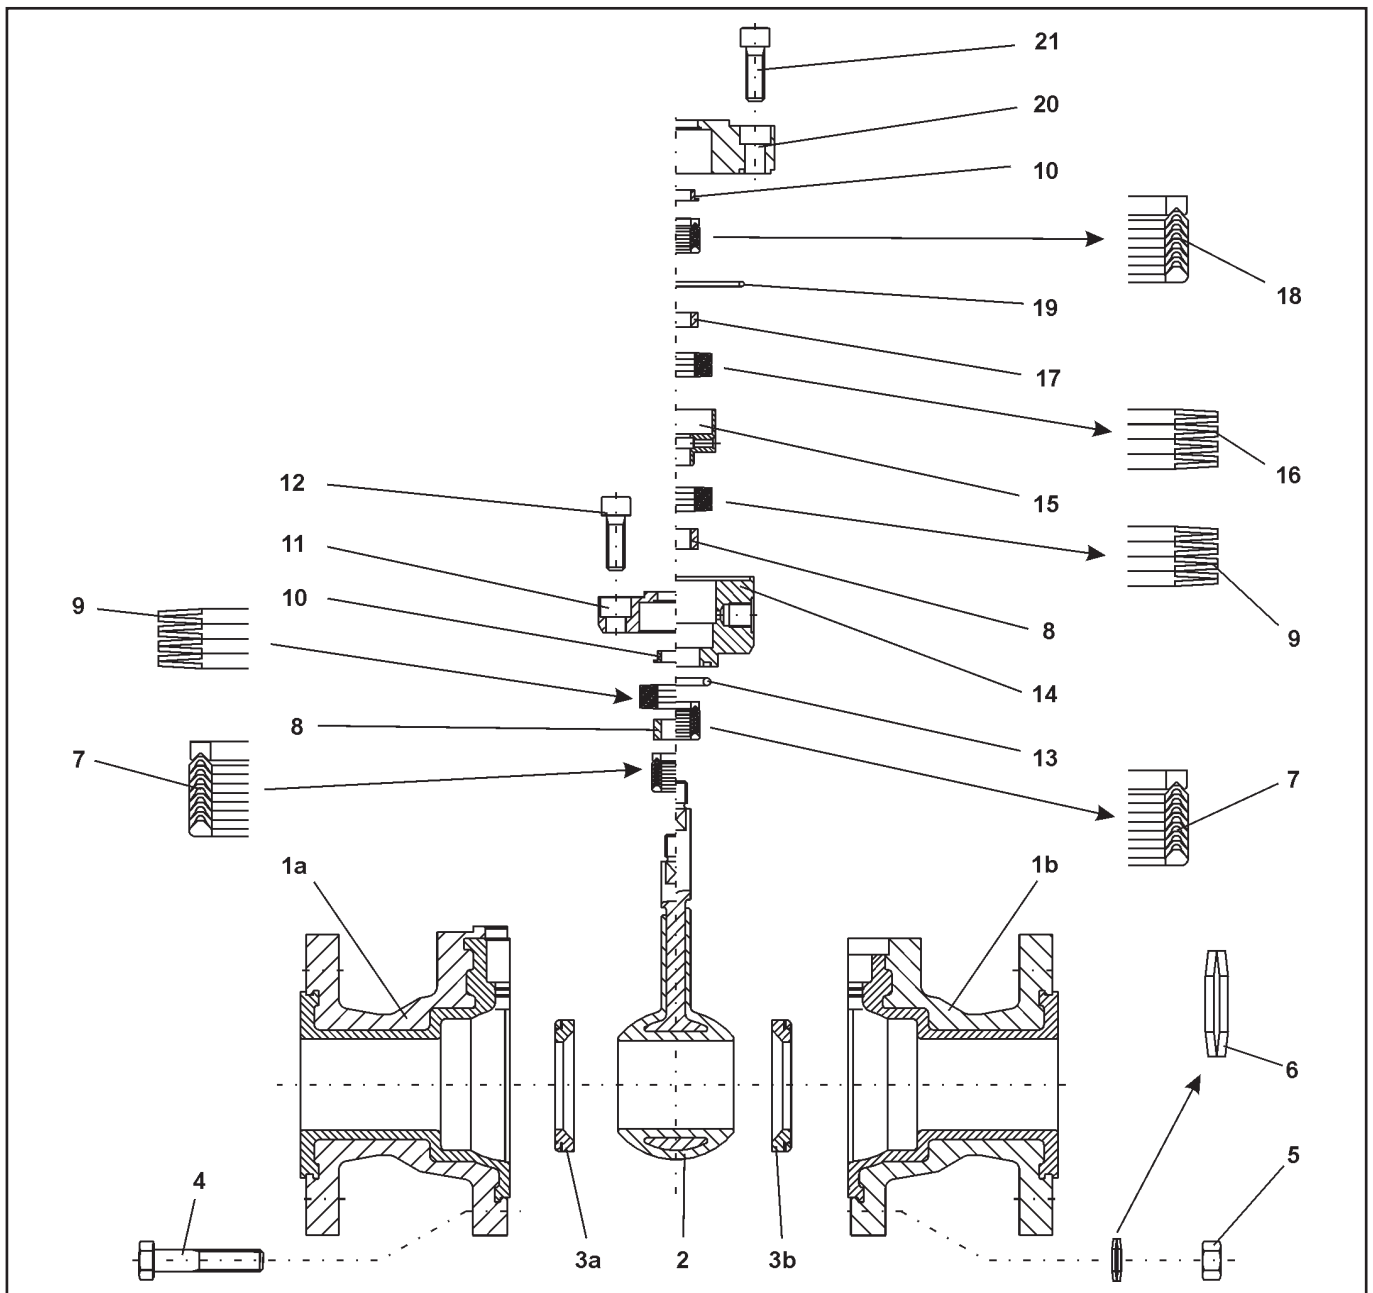
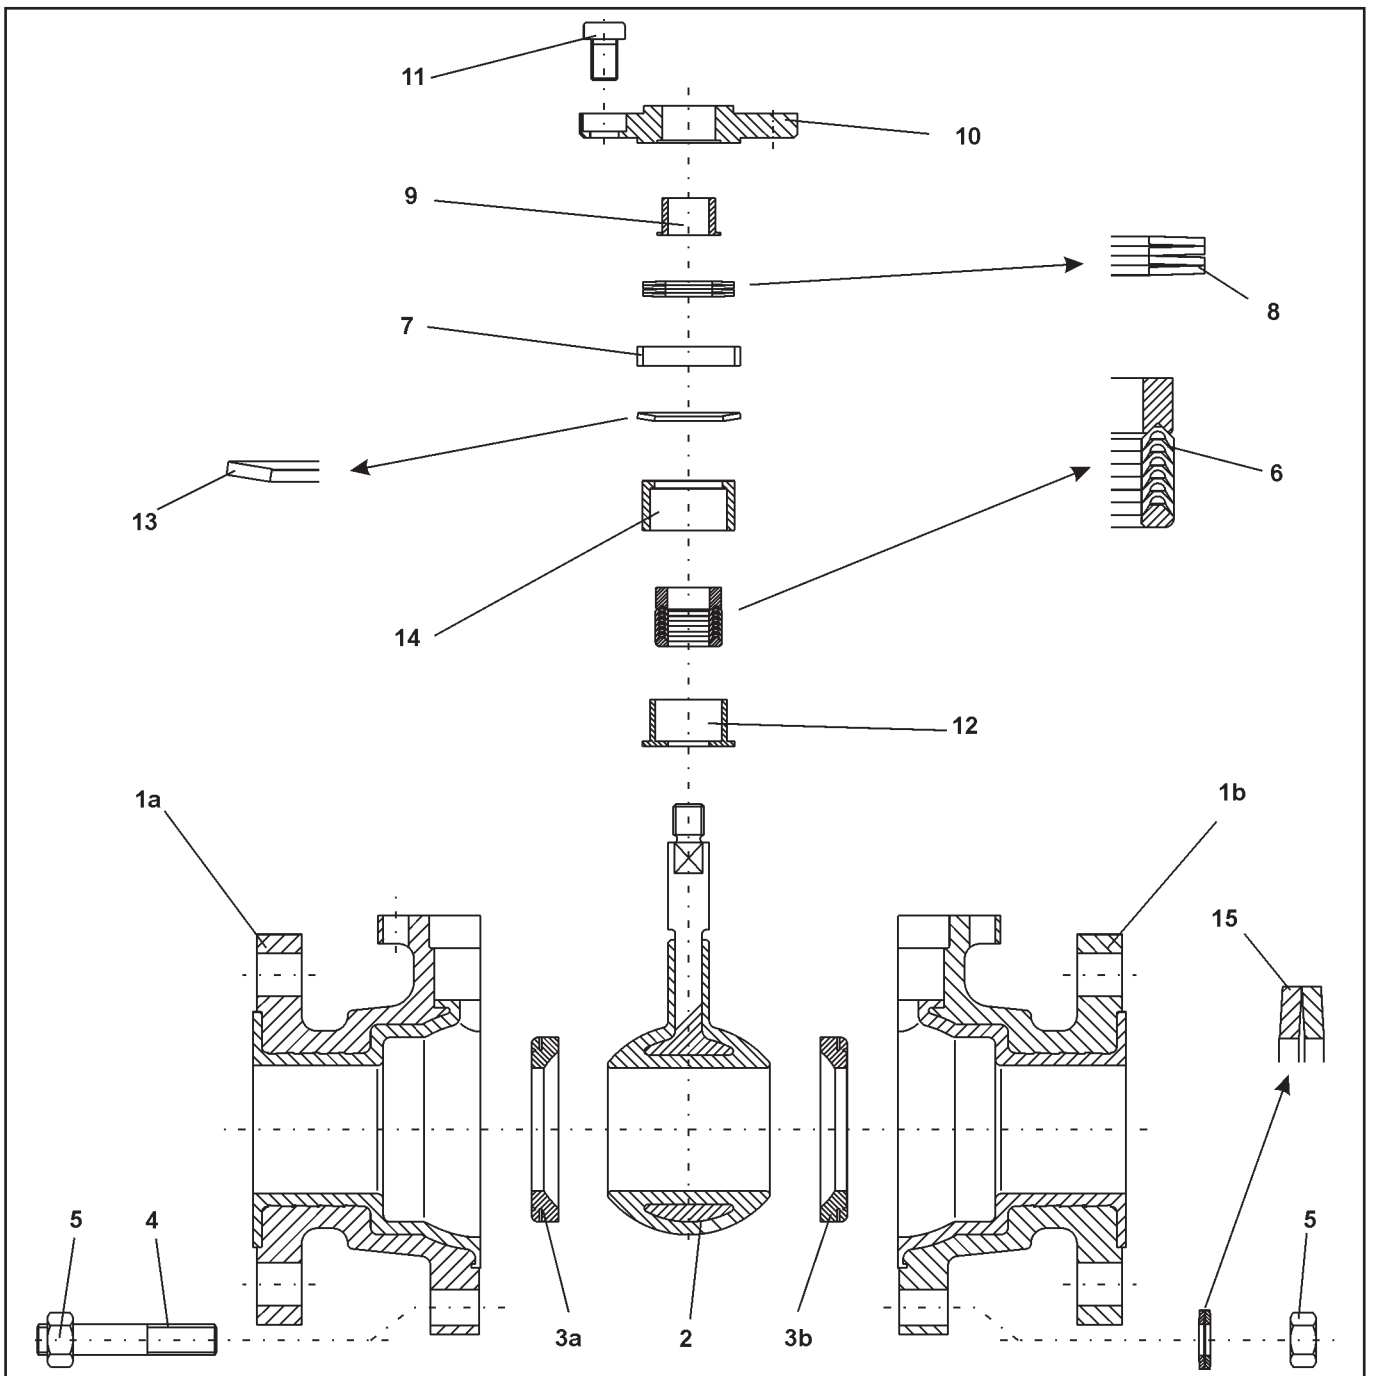

Fig 3 - Explosion drawing of DIN-Ball valve series 20a
Fig 4 - Explosion drawing for the Series 20a ANSI-Ball valve
**Note:** The position and arrangement of the individual parts shown in the drawing (Fig. 3 and Fig. 4), must be followed when assembling the valve.
Screw both body sections together hand-tight. Assembly is with hexagon screws ( 4 ), hexagon nuts ( 5 ) and washers ( 6 ). Refer to the explosion drawing ( Fig 3 ) for positioning the spring washers.
For the position and arrangement of the spring washers, refer to the explosion drawing ( fig 3 ).
Refer to the explosion drawing ( Fig. 4 ) for positioning the spring washers.
The bushing ( 14 ) is placed on the spring washer ( 13 ). Refer to the explosion drawing ( Fig 4 ) for positioning the spring.
The spring washer set ( 8 ) is placed on the base ring of the packing and in the centre ring. Also here, refer to the explosion drawing ( Fig 4 ) for the position of the spring washer set.